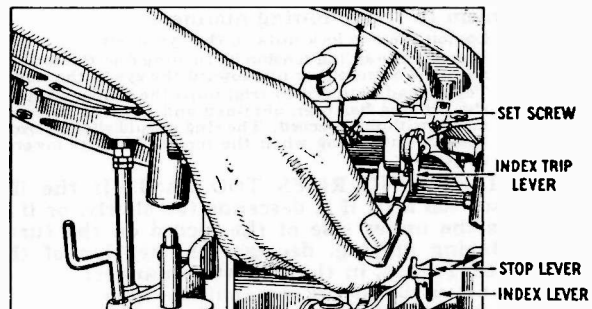

Fig. 15—Adjusting Index Trip Lever
- b. Tighten the set screw on the index lever trip cam, shown in Fig. 15, so that it is against the flat of the index trip lever shaft. Loosen the lock nut in the index trip lever as shown in Fig. 15, and adjust the screw until the inside pin lowers on the stop lever and the outside pin lowers in the larger slot of the index lever when the lift ring comes down without a record.
- Improper adjustment of index trip lever, Fig. 15. See b, subject 16, above for proper adjustment.